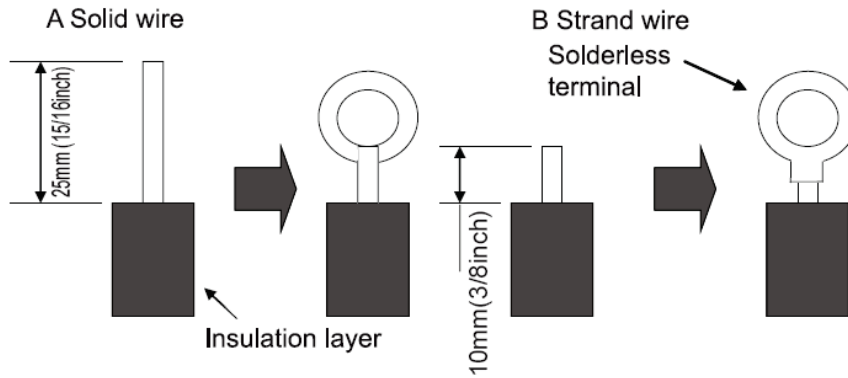

Fig.4.22
(1) For solid core wiring (Fig.4.22).